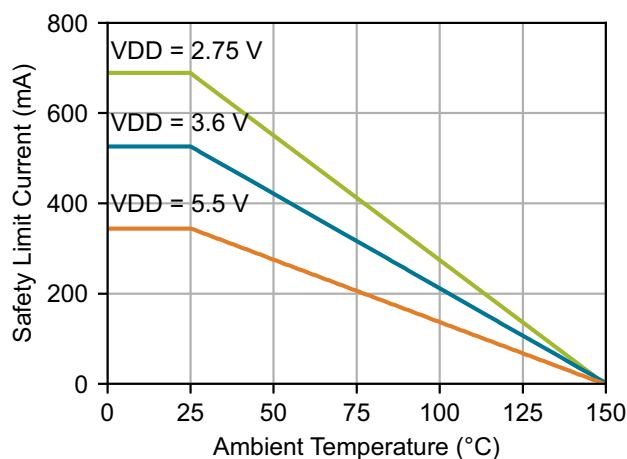
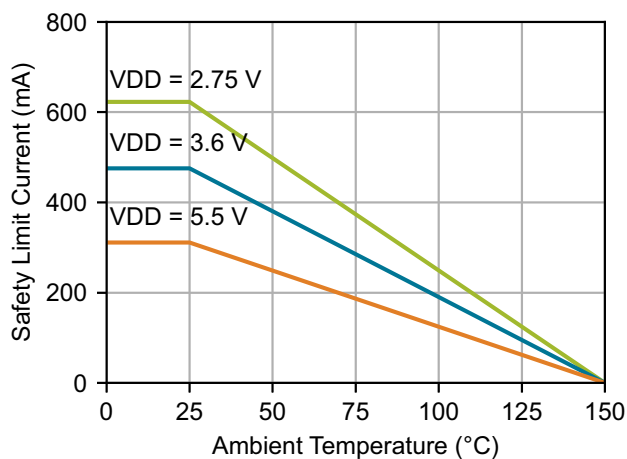
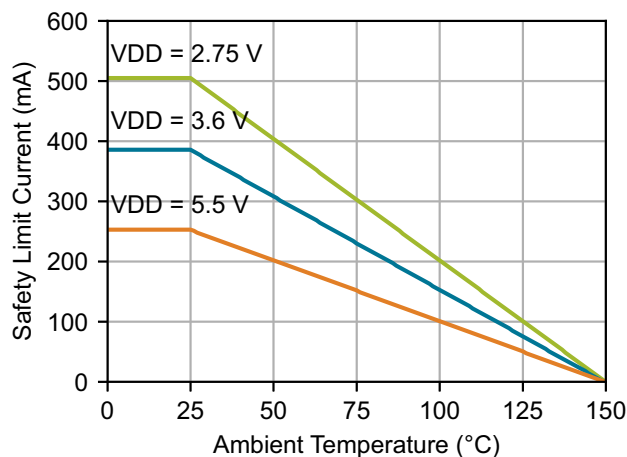

Figure 15. WB SOIC-16 Thermal Derating Curve, Dependence of Safety Limiting Current
Figure 16. QSOP-16 Thermal Derating Curve, Dependence of Safety Limiting Current
Figure 17. SSO-8 Thermal Derating Curve, Dependence of Safety Limiting Current
1. Maximum value allowed in the event of a failure; also see the thermal derating curves in Figure 15 on page 21, Figure 16 on page 21, Figure 17 on page 21, and Figure 18 on page 21.